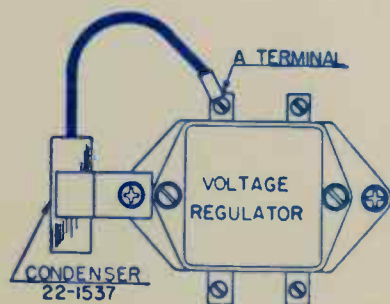

Fig. 1
2. Turn the manual tuning control knob (Fig. 1) to tune in the desired station. Carefully tune to the middle of the signal for clearest reception.